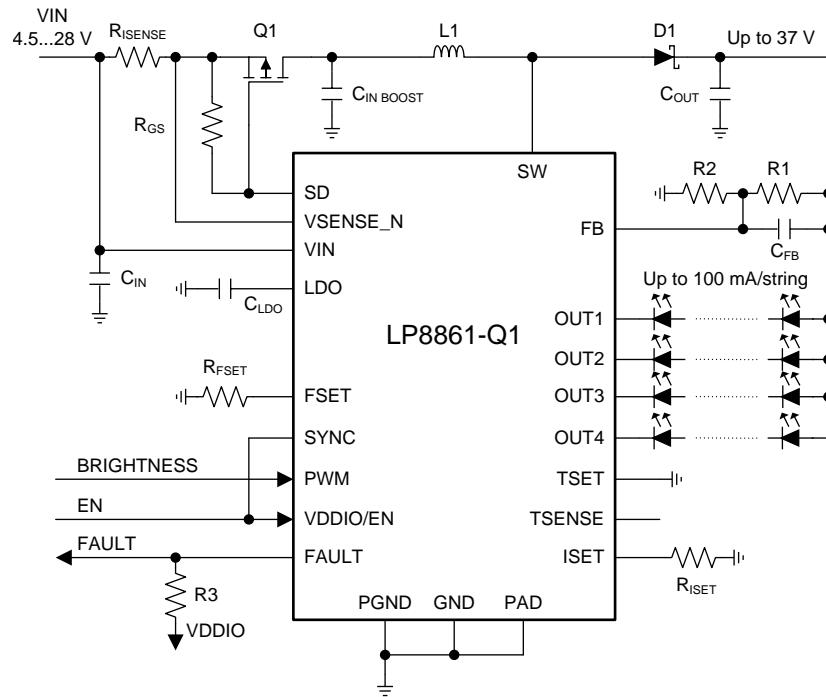

Figure 24. Typical Application for Four Strings 100 mA/String Configuration
The LP8861-Q1 has a control pin (SD) for driving the gate of an external power-line FET. Power-line FET is an optional feature; an example schematic is shown in Figure 24. Power-line FET limits inrush current by turning on gradually when the device is enabled ( $V_{DDIO/EN}$  = high,  $V_{IN} > V_{GS}$ ). Inrush current is controlled by increasing sink current for the FET gradually to 230  $\mu$ A.
Figure 24 shows the typical application for LP8861-Q1 which supports 4 LED strings with maximum current 100 mA and boost switching frequency of 300 kHz.